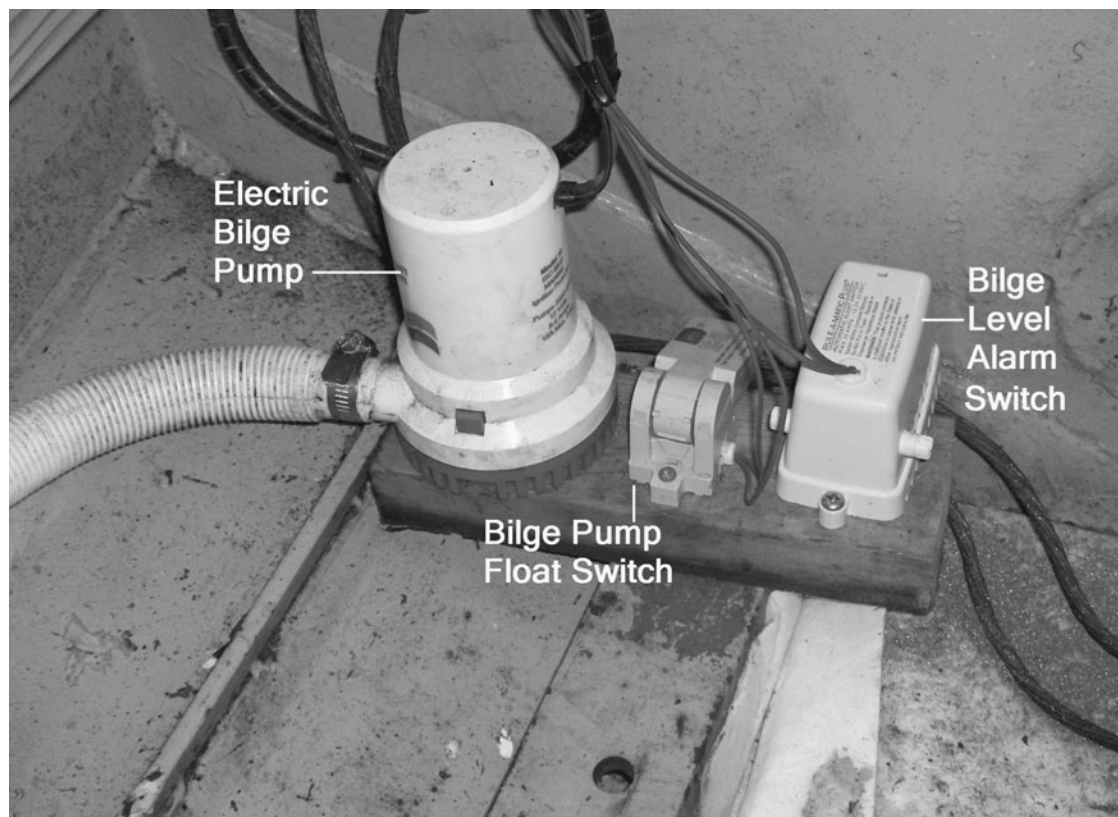

Fig. 1-5. A bilge pump, float switch, and alarm.
15. Locate the bilge pumps and bilge pump switches (Fig. 1-5), together with their fuses or breakers. Bilge pumps have two possible settings—manual or automatic. Verify that each pump works properly on either setting.